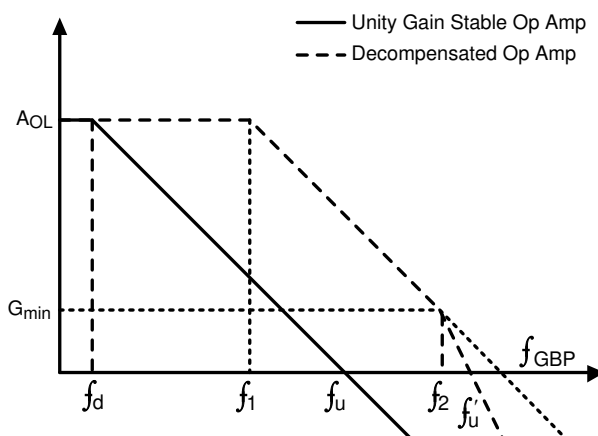

图 8-5. Gain vs Frequency Characteristics for a Unity-Gain Stable Op Amp and a Decompensated Op Amp
As shown in 图 8-5, the dominant pole f_d is moved to the frequency f_1 in the case of a decompensated op amp. The solid A_{OL} plot is the open-loop gain plot of a traditional unity-gain stable op amp. The change in internal compensation in a decompensated amp such as the OPAX607, increase the bandwidth for the same amount of power. That is, the decompensated op amp has an increased bandwidth to power ratio when compared to a unity-gain stable op amp of equivalent architecture. Besides the advantages in the above mentioned parameters, an increased slew rate and a better distortion (HD2 and HD3) value is achieved because of the higher available loop-gain, compared to its unity-gain counterpart. The most important factor to consider is ensuring that the op amp is in a noise gain (NG) greater than G_{min} . A value of NG lower than G_{min} results in instability, as shown in 图 8-5, because the $1/\beta$ curve intersects the A_{OL} curve at 40 dB/decade. This method of analyzing stability is called the *rate of closure method*. See the precision lab training videos from TI for a better understanding on device stability and for different techniques of ensuring stability.